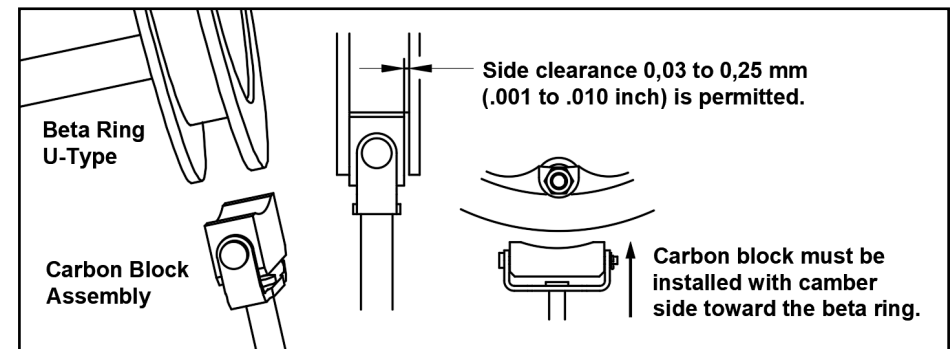

FIGURE 5-15
- (2) Fit the carbon block into the U-Type beta ring with a minimum side clearance 0,03 mm (.001 inch). Maximum side clearance 0,25 mm (.010 inch) is permitted. Refer to figure 5-15.
CAUTION: CARBON BLOCK MUST BE INSTALLED WITH CAMBER SIDE TOWARD THE BETA RING (FIGURE 5-15).